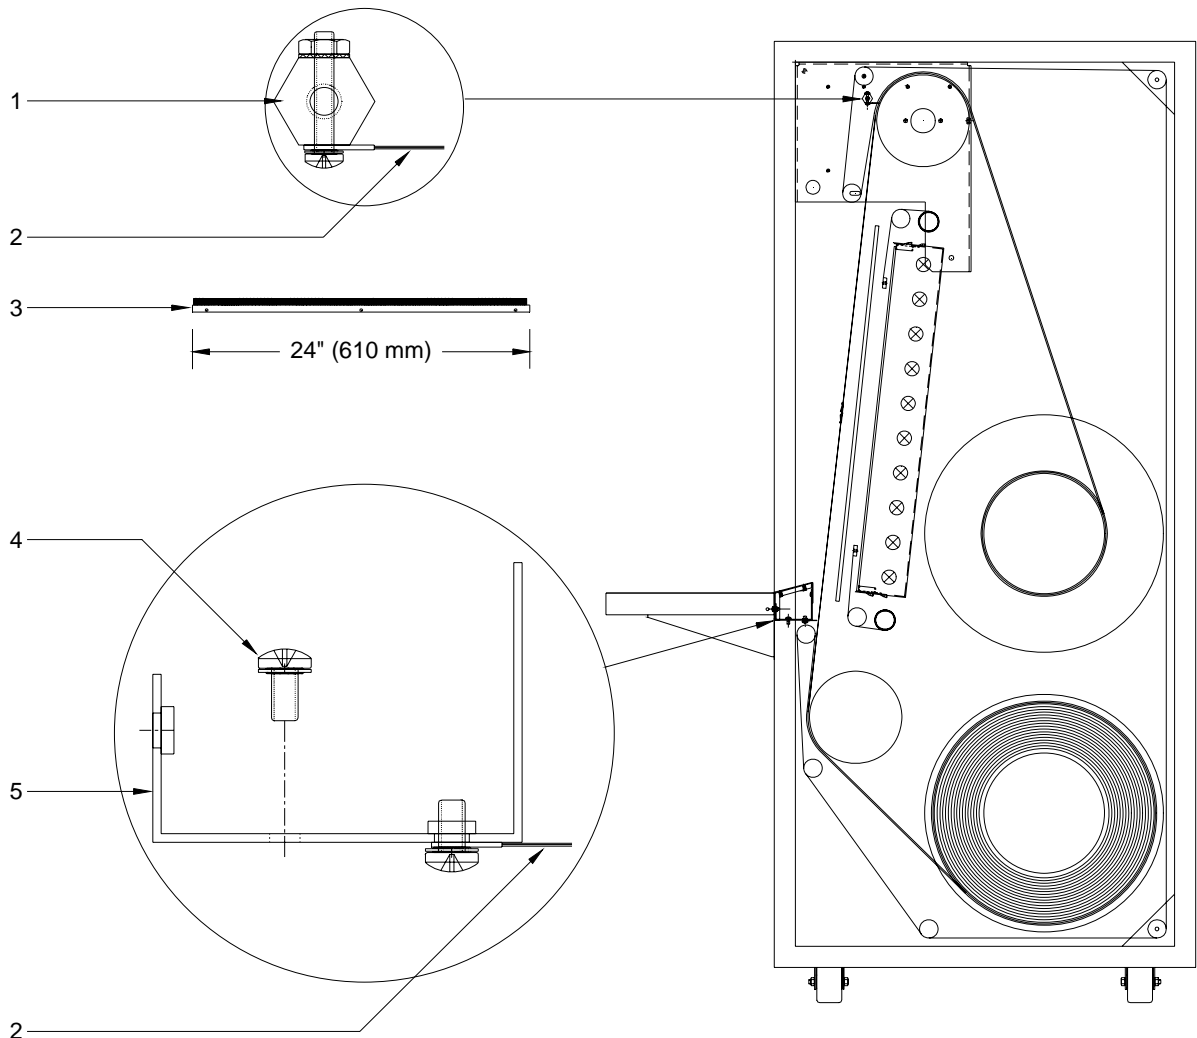

Figure 5-11-1. Anti-Static Brushes
To minimize static buildups, two sets of anti-static brushes (2 in Figure 5-11-1) are used. Each brush (3) is only 24 inches long and therefore two brushes have to be used with each set to cover the width of the transport band. To replace the brushes, proceed as follows: